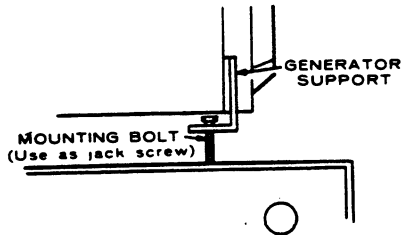

FIGURE 7.
3. After determining the proper clearance for each side of the skid base, turn jackscrews in the threaded holes to allow a clearance for placing the shims between skid base and generator support (Figure 7). Lower generator using the jackscrews and allow to rest on shims. Recheck the total generator clearance, base to support; it must equal the base to support clearance plus the 0.010 inches (0.254 mm).